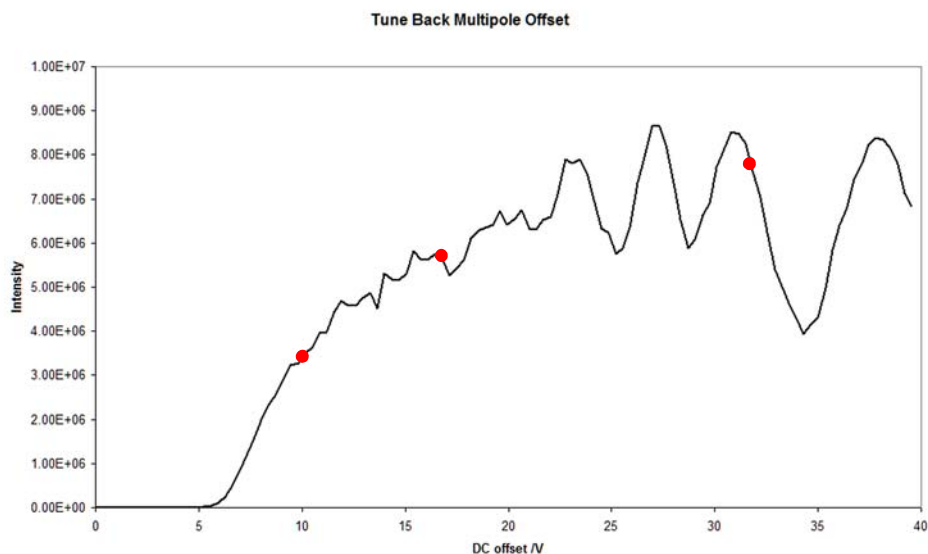

Figure 7-21. Dependence of the signal from the DC Offset
6. Search for a local maximum just before the oscillations on the signal start. (In the example shown in Figure 7-21, that would be at about 17 V).
In the example shown in Figure 7-21, nodding starts at above 20 V. In this region, the signal is fragile. Depending on the DC Offset (for comparison: 10 V, 17 V, and 32 V; red points) the calibration curves look differently.